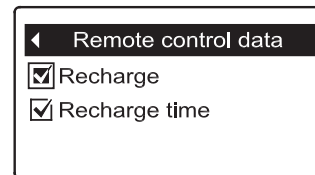

FIG. 124
4. Press the SELECT (○) button to display the Remote control data screen (See Figure 124).